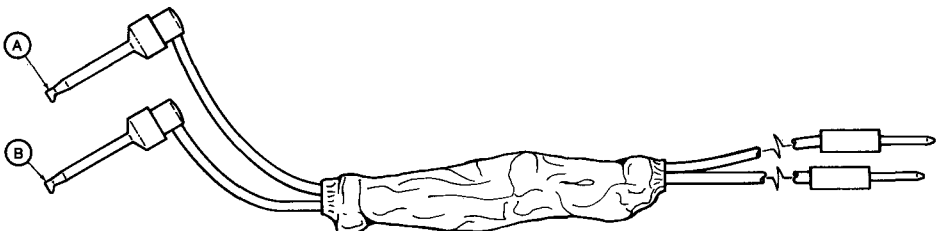

Fig. B-8. Assembly, step 5.
5. Slide a 2-inch length of $\frac{1}{2}$ -inch heat shrink tubing over capacitor and then shrink the tubing. See Fig. B-8.